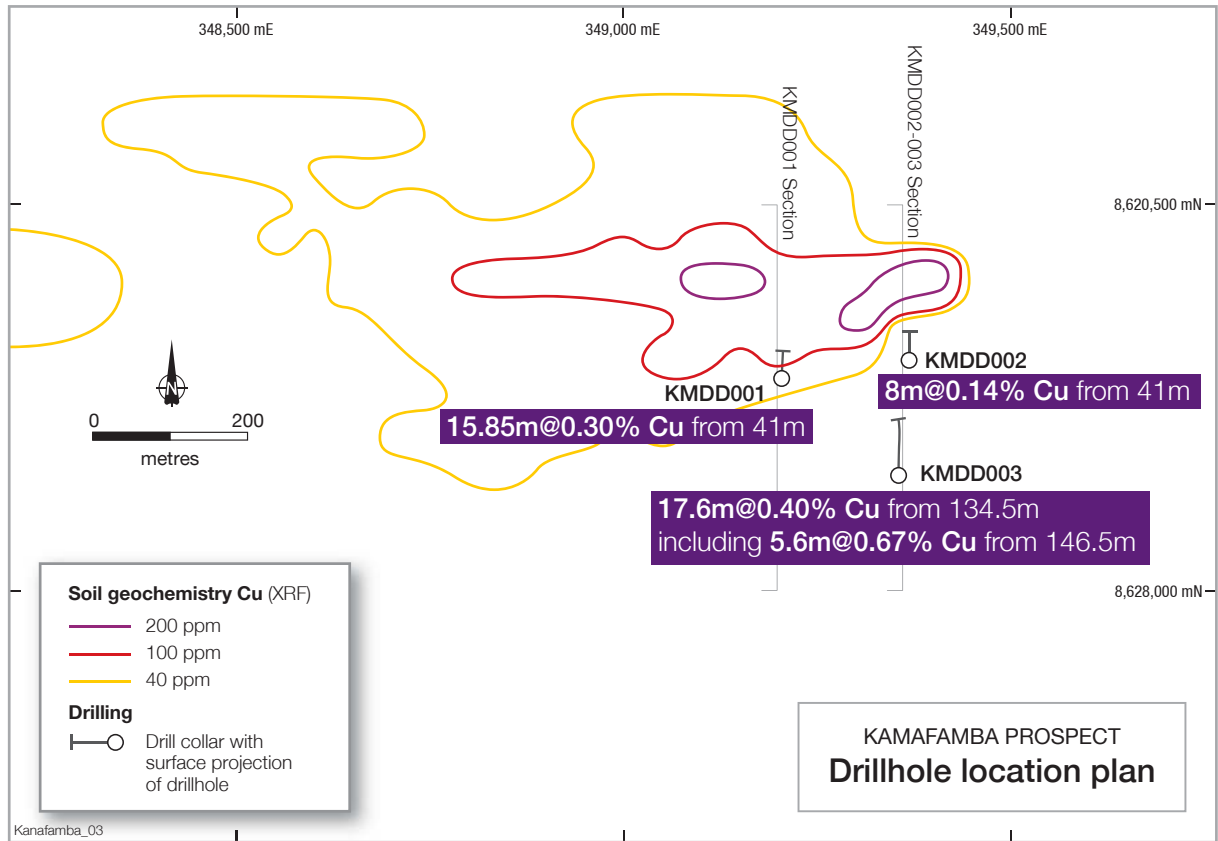

Figure 2: Kamafamba soil anomaly contours and drill intercepts.
- Three drill holes for 409m were drilled at the Kamafamba prospect (Figure 2). Highlights from this drilling included: